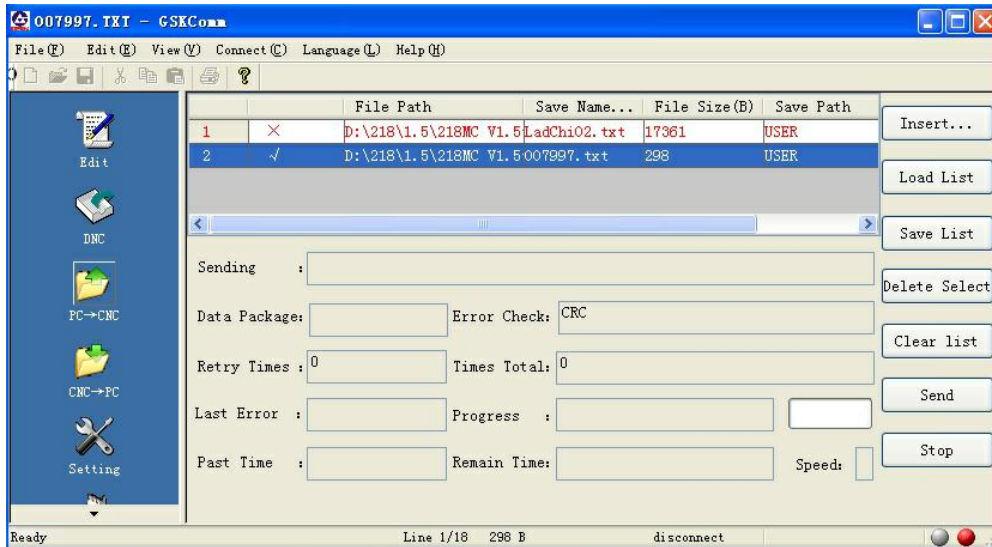

Fig.11-2-2-7
7、 After sending, the dialogue status bar shows “sent”, as shown in Fig.11-2-2-8